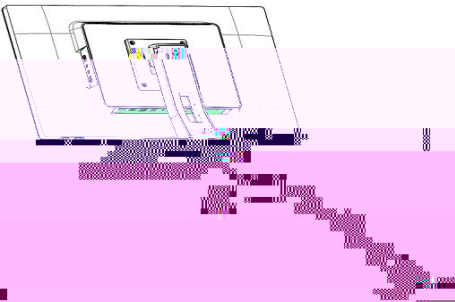

Figure 4 Removing the Base
2. Loosen the screws anti-clockwise to remove the base, as shown in Figure 4.